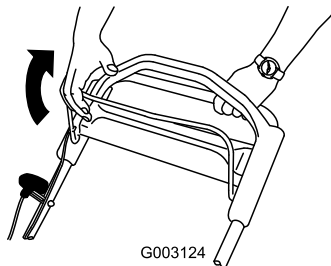

Figure 15
2. Pull the blade-control bar to the handle (Figure 15).